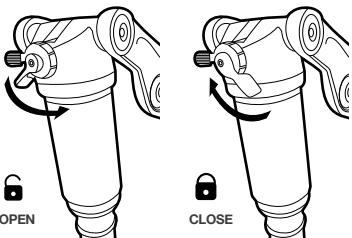

Figure 21. Open position (left) and closed (right)
2. If the padlock is open, it means that your shock is in open position (*Figure 21*).
3. If the padlock is closed, it means that your shock is locked out (*Figure 21*)
4. To move from one position to the other, you simply need to move the blue lever with your index figure in the direction indicated by the arrows in *Figure 21*.